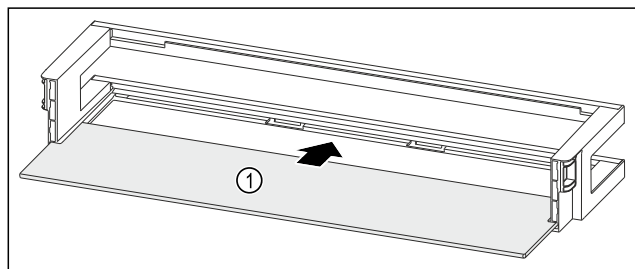

Fig. 129 Door rack with shelf
- ▶ Push the shelf Fig. 129 (1) into the side recesses.